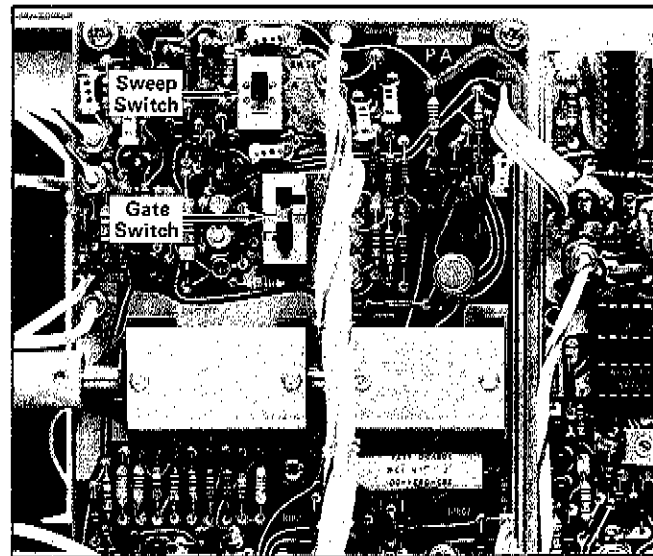

Fig. 2-8. Location of Sweep and Gate switches (behind right side panel).
**+ Sawtooth.** The + SAWTOOTH connector provides a positive-going sample of the sawtooth signal from the time-base units in the horizontal plug-in compartments. The internal Sweep switch (located behind right side panel; see Fig. 2-8) allows the output sawtooth to be selected from the time-base unit in either the A HORIZ or B HORIZ compartments. Rate of rise of the sawtooth output signal is about 50 millivolts/unit of time into a 50-ohm load, or about one volt/unit of time into a one-megohm load. Unit of time is determined by the time-base time/division switch (e.g., if time/division switch is set to one millisecond/division, a unit of time is one millisecond; at five milliseconds/division, a unit of time is five milliseconds). The peak output voltage is about 500 millivolts into a 50-ohm load or about 10 volts into a one-megohm load.
units in the horizontal plug-in compartments. The Gate switch (located behind the right side panel; see Fig. 2-8) allows the output signal to be selected from the time-base unit in the A HORIZ compartment, B HORIZ compartment, or the delayed gate from a delaying time-base unit in either horizontal compartment. Duration of the gate output signal is the same as the duration of the respective sweep or, in the case of the delayed gate, it starts at the end of the delay period and lasts until the end of the sweep from the delaying time-base unit. Amplitude of the output signal at the + GATE connector is about 0.5 volt into 50 ohms, or about 10 volts into one megohm.